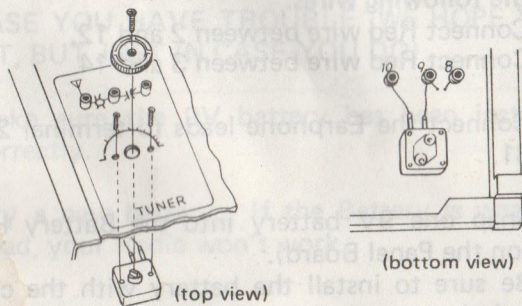

Figure 12
- Mount the tuning Capacitor from the bottom of the panel and position as shown on Figure 12.
- Turn the Panel over and on the bottom, connect the Tuning Capacitor leads to terminal 9 and 10. (See Figure 12.)